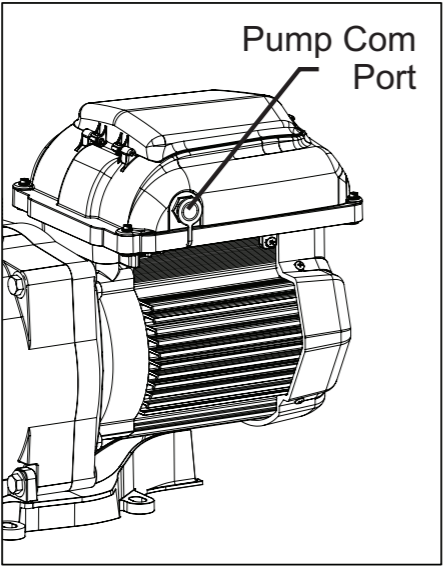

Figure 11
1. Route the communication cable from the Pump Com Port (Figure 11) to the control system wiring compartment.
10. Plug the communication cable into the Pump Com Port (Figure 11).